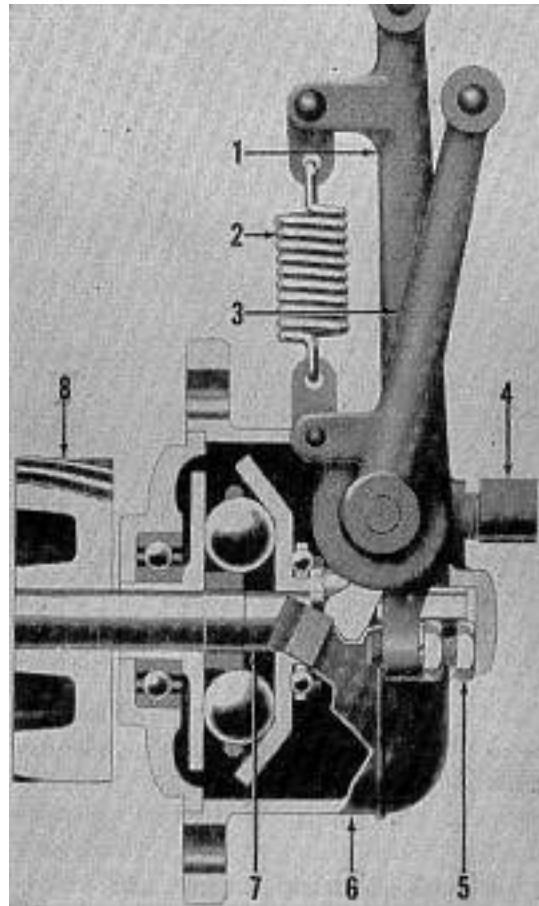
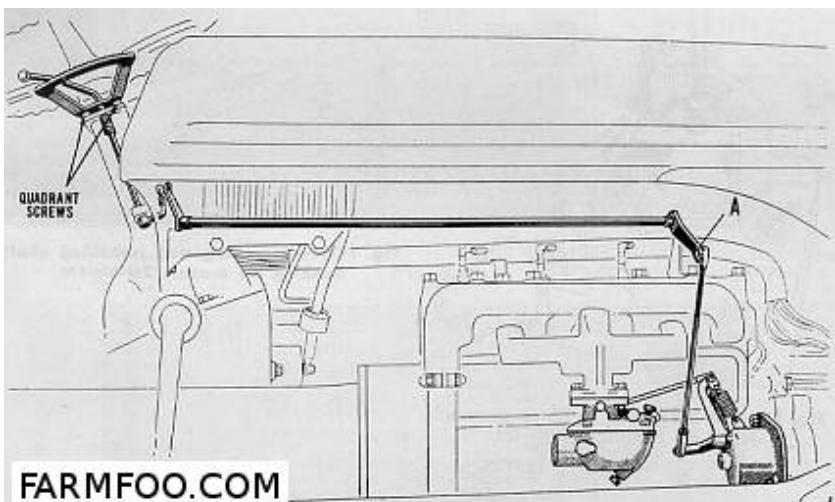
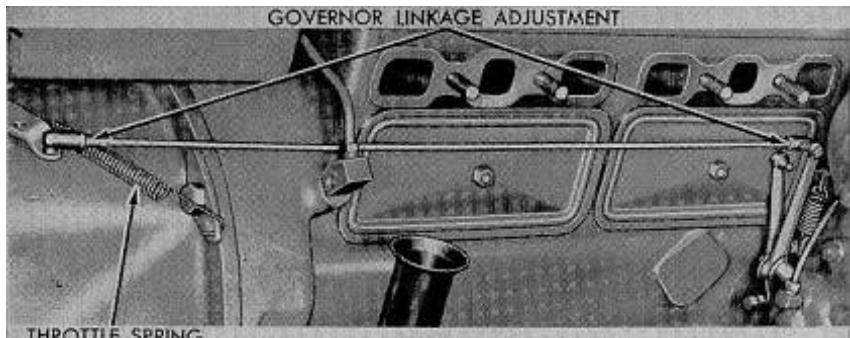

Fig. F028 – Novi ball type governor used on models 2N-8N-9N tractors.
Fig. F030 — Showing point (A) where governor linkage on models 2N and 9N is to be held while bending linkage to prevent over speeding of engine.
Fig. F031 — Showing point of adjustment on model 8N governor linkage to correct an over speeding condition.
44. **ADJUSTMENT.** The governor spring (2 – Fig. F028) should be a snug fit but should have no end play and no pre-load. Spring may be adjusted by bending the loop on the spring with pliers. Check engine speed at Power Take-Off shaft or belt pulley, after engine is warmed up. Correct governed speed with hand throttle lever in last quadrant notch or wide open is 727 to 800 PTO shaft rpm, 2000 to 2200 engine rpm or 1358 to 1494 belt pulley rpm.
If crankshaft speed exceeds 2200 rpm or power take-off speed exceeds 800 rpm with throttle lever in last quadrant notch, turn in maximum speed stop screw (Fig. F028 - 5) until speed is correct. If engine overspeeds before hand throttle is wide open, adjust model 2N – 9N linkage by holding throttle shaft lever at "A", Fig. F030 and bending linkage until speed is correct, or by lengthening governor link rod on model 9N, as shown in Fig. F031.